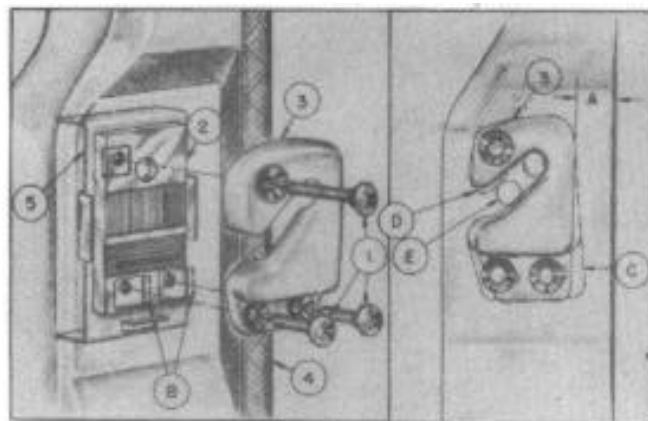

FIGURE 25
The door striker plate (3), Figure 25, is mounted on the body pillar and is attached to a tapping plate on the inside of the pillar.